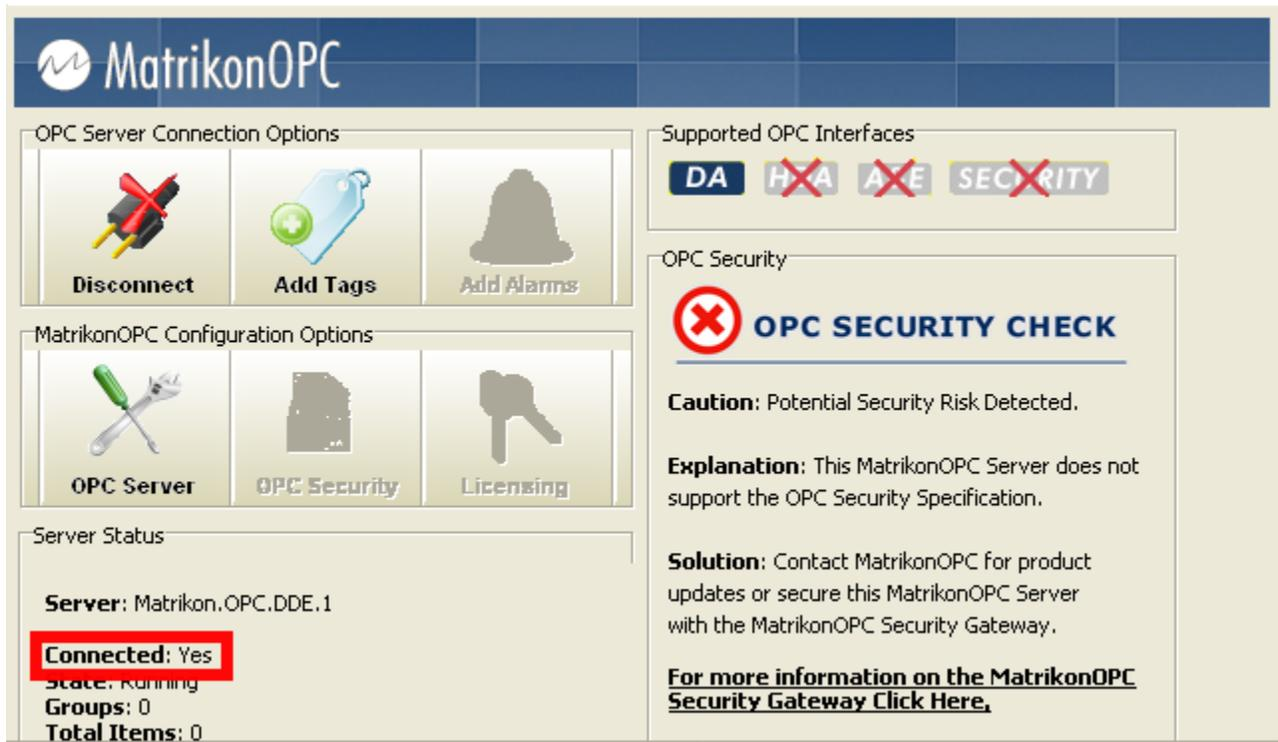

Figure 10 - Server Status
- In the **Server Status** screen section, **Yes** appears next to the **Connected** field (Figure 10).